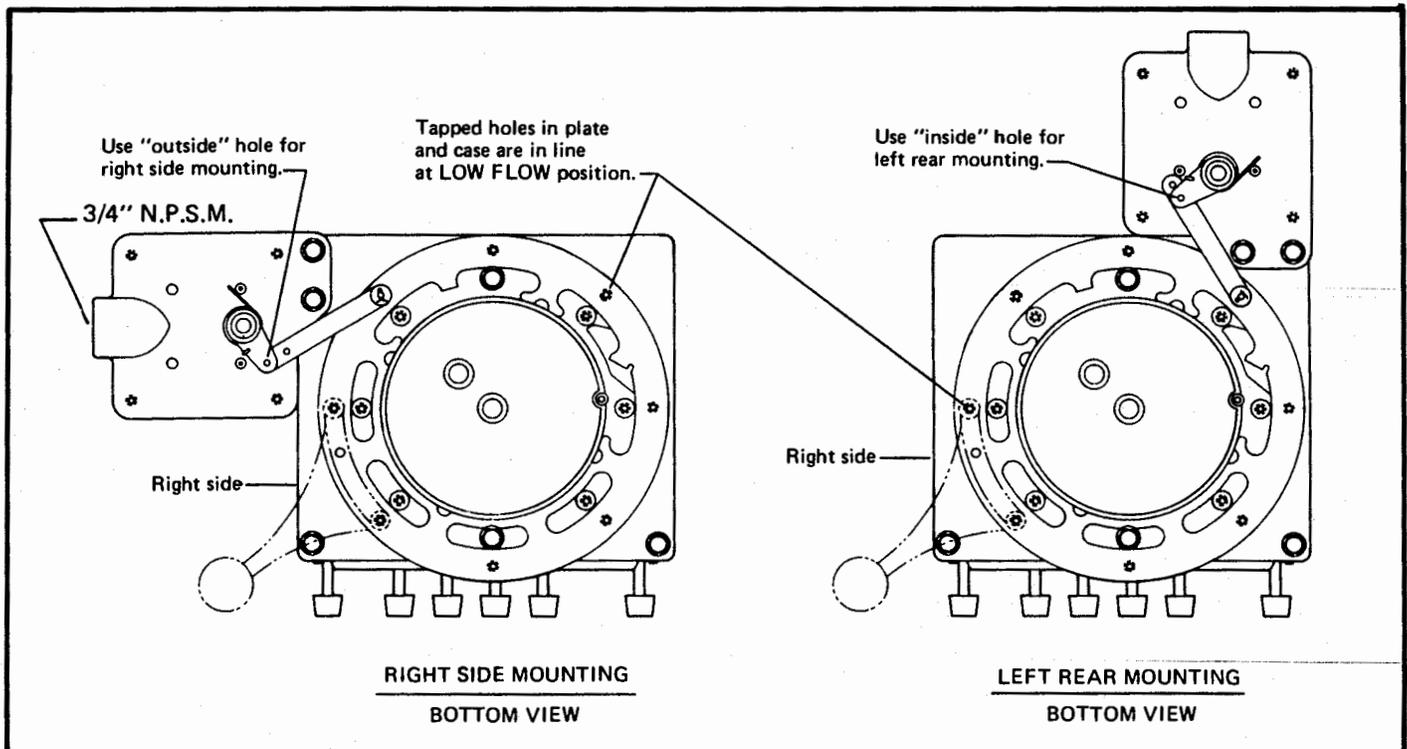

Figure 6-5 Preset Switch Assembly Schematic
2. Move the cam up to relieve the tension on the microswitch swing arm. The roller on the microswitch swing arm should be approx. 1/16" away from the indicator stem. If necessary, adjust the swing arm per paragraph 6-7 and Figure 6-5.